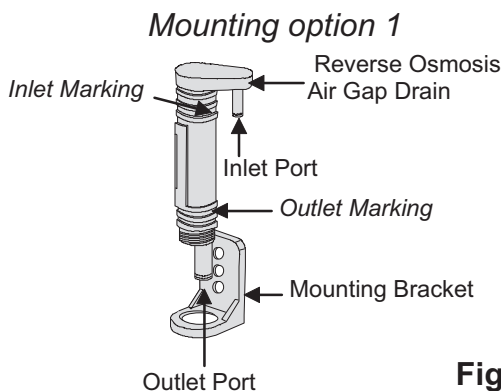

Fig 1-1
2. Check inlet and outlet ports marking on AG110-002 body and install AG110-002 into the threaded opening of the mounting bracket as shown on FIG 1-1 (mounting options 1 and 2), for dimensions see FIG 1-2.